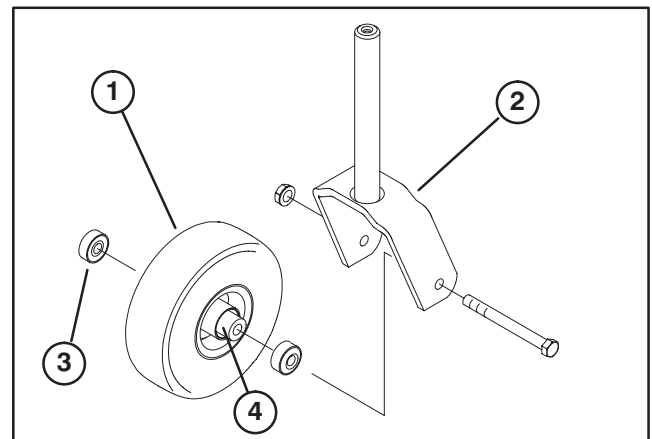
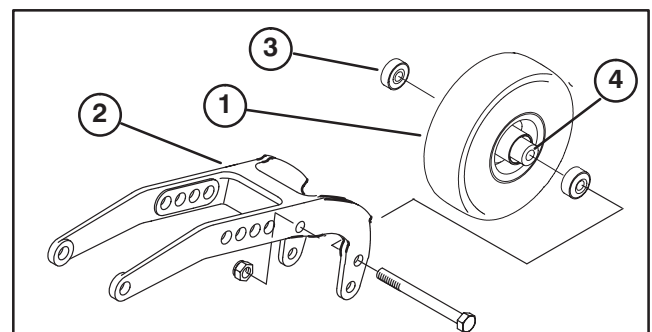

Figure 24
Figure 25
SERVICING CASTOR WHEELS AND BEARINGS (Fig. 24–25)
2. Remove locknut from capscrew holding castor wheel assembly between front castor fork (Fig. 24) or rear castor pivot arm (Fig. 25) Grasp castor wheel and slide capscrew out of fork or pivot arm.